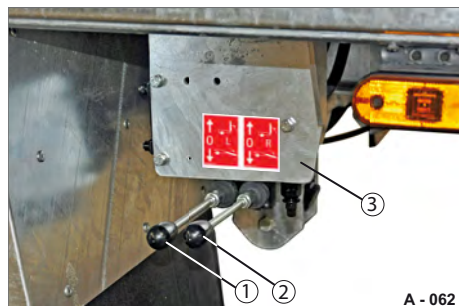
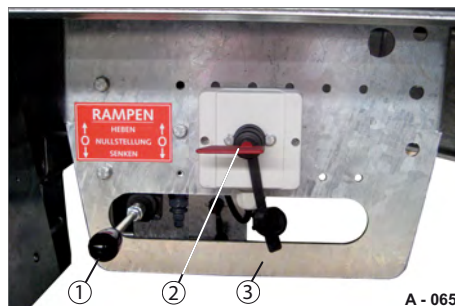

Fig. 100 Operating point
Fig. 102 Operating point (electro-hydraulic)
- ▶ Operate the corresponding lever (Fig. 100/1 or Fig. 100/2) or the lever (Fig. 102/1) for the loading wall to activate the hydraulic cylinders.